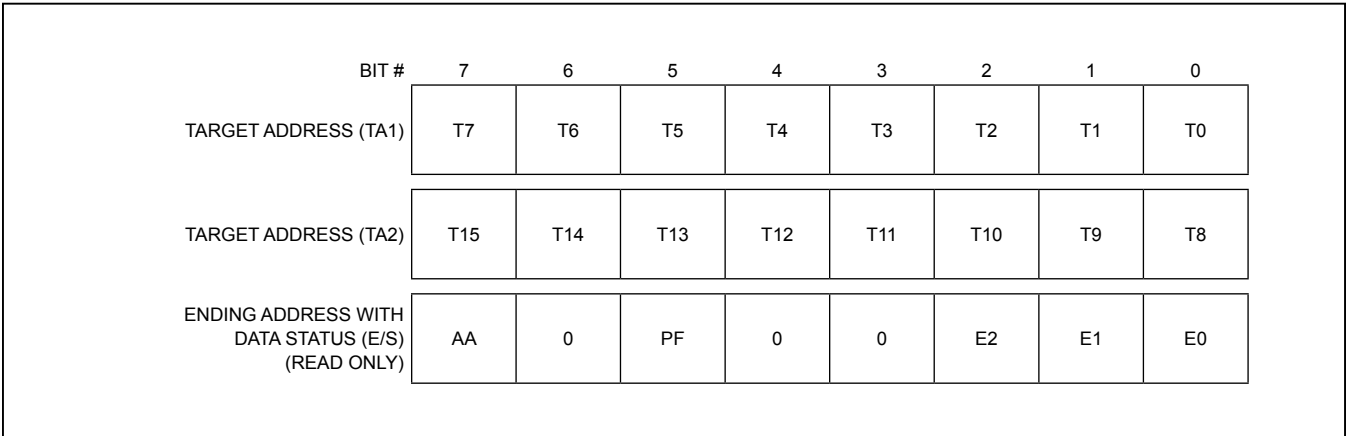

Figure 6. Address Registers
The DS2431 employs three address registers: TA1, TA2, and E/S (Figure 6). These registers are common to many other 1-Wire devices but operate slightly differently with the DS2431. Registers TA1 and TA2 must be loaded with the target address to which the data is written or from which data is read. Register E/S is a readonly transfer-status register used to verify data integrity with write commands. E/S bits E[2:0] are loaded with the incoming T[2:0] on a Write Scratchpad command and increment on each subsequent data byte. This is, in effect, a byte-ending offset counter within the 8-byte scratchpad. Bit 5 of the E/S register, called PF, is a logic 1 if the data in the scratchpad is not valid due to a loss of power or if the master sends fewer bytes than needed to reach the end of the scratchpad. For a valid write to the scratchpad, T[2:0] must be 0 and the master must have sent 8 data bytes. Bits 3, 4, and 6 have no function; they always read 0. The highest valued bit of the E/S register, called authorization accepted (AA), acts as a flag to indicate that the data stored in the scratchpad has already been copied to the target memory address. Writing data to the scratchpad clears this flag.